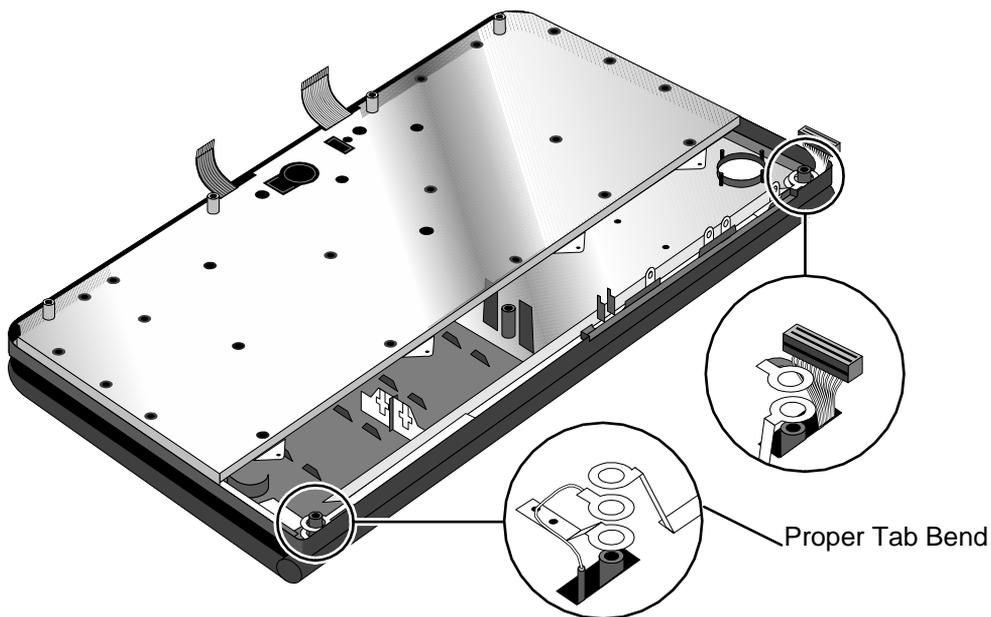

Figure 16 - Display Grounding Eyelets
- Replace the grounding eyelets over the display posts (see Figure 16). **Use caution when replacing the grounding eyelets, as they can be broken off easily. If this happens, the assembly must be replaced.**